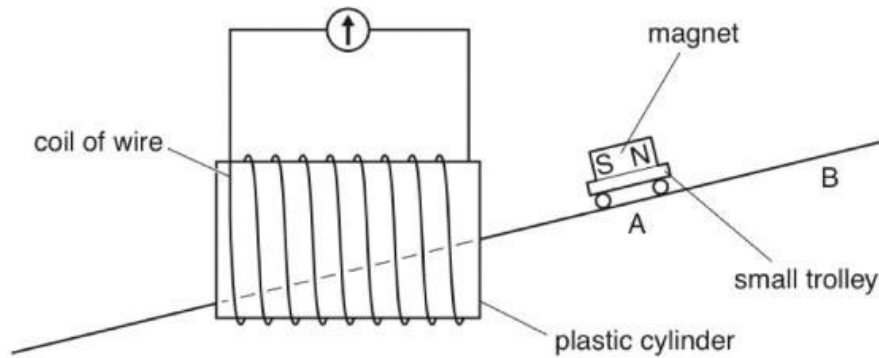

Fig. 7.1
- (a) Fig. 7.1 shows a coil of wire wound on a thin plastic cylinder. The plastic has no effect on any magnetic field. The galvanometer is extremely sensitive.